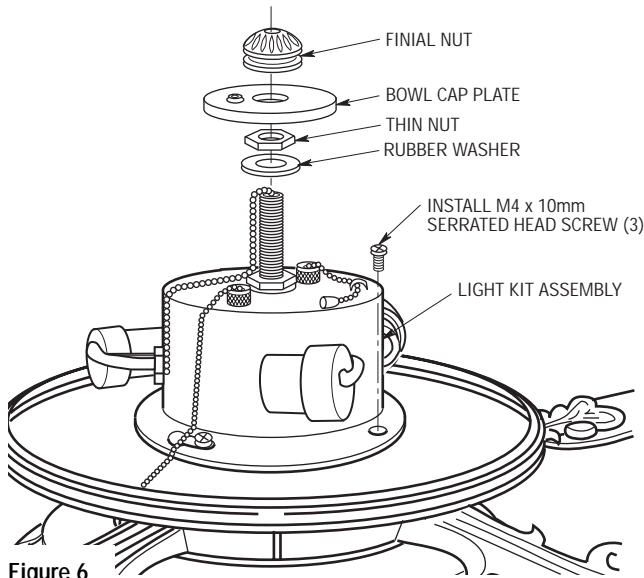

Figure 6
- 8. Position the light kit assembly onto the light kit adapter plate, aligning the two keyholes and one hole of the light kit assembly with the three holes of the light kit adapter plate (Figure 6).
- 9. Install the two M4 x 10mm serrated head screws into the keyhole slots attaching the light kit assembly to the light kit adapter plate. Turn the light kit assembly clockwise and tighten the two screws (Figure 6). Install the remaining M4 x 10mm serrated head screw into the hole of the light kit assembly and tighten securely.
- 10. Remove the finial nut, bowl cap plate, thin nut, and rubber washer and retain for later installation of glass bowl (Figure 6).